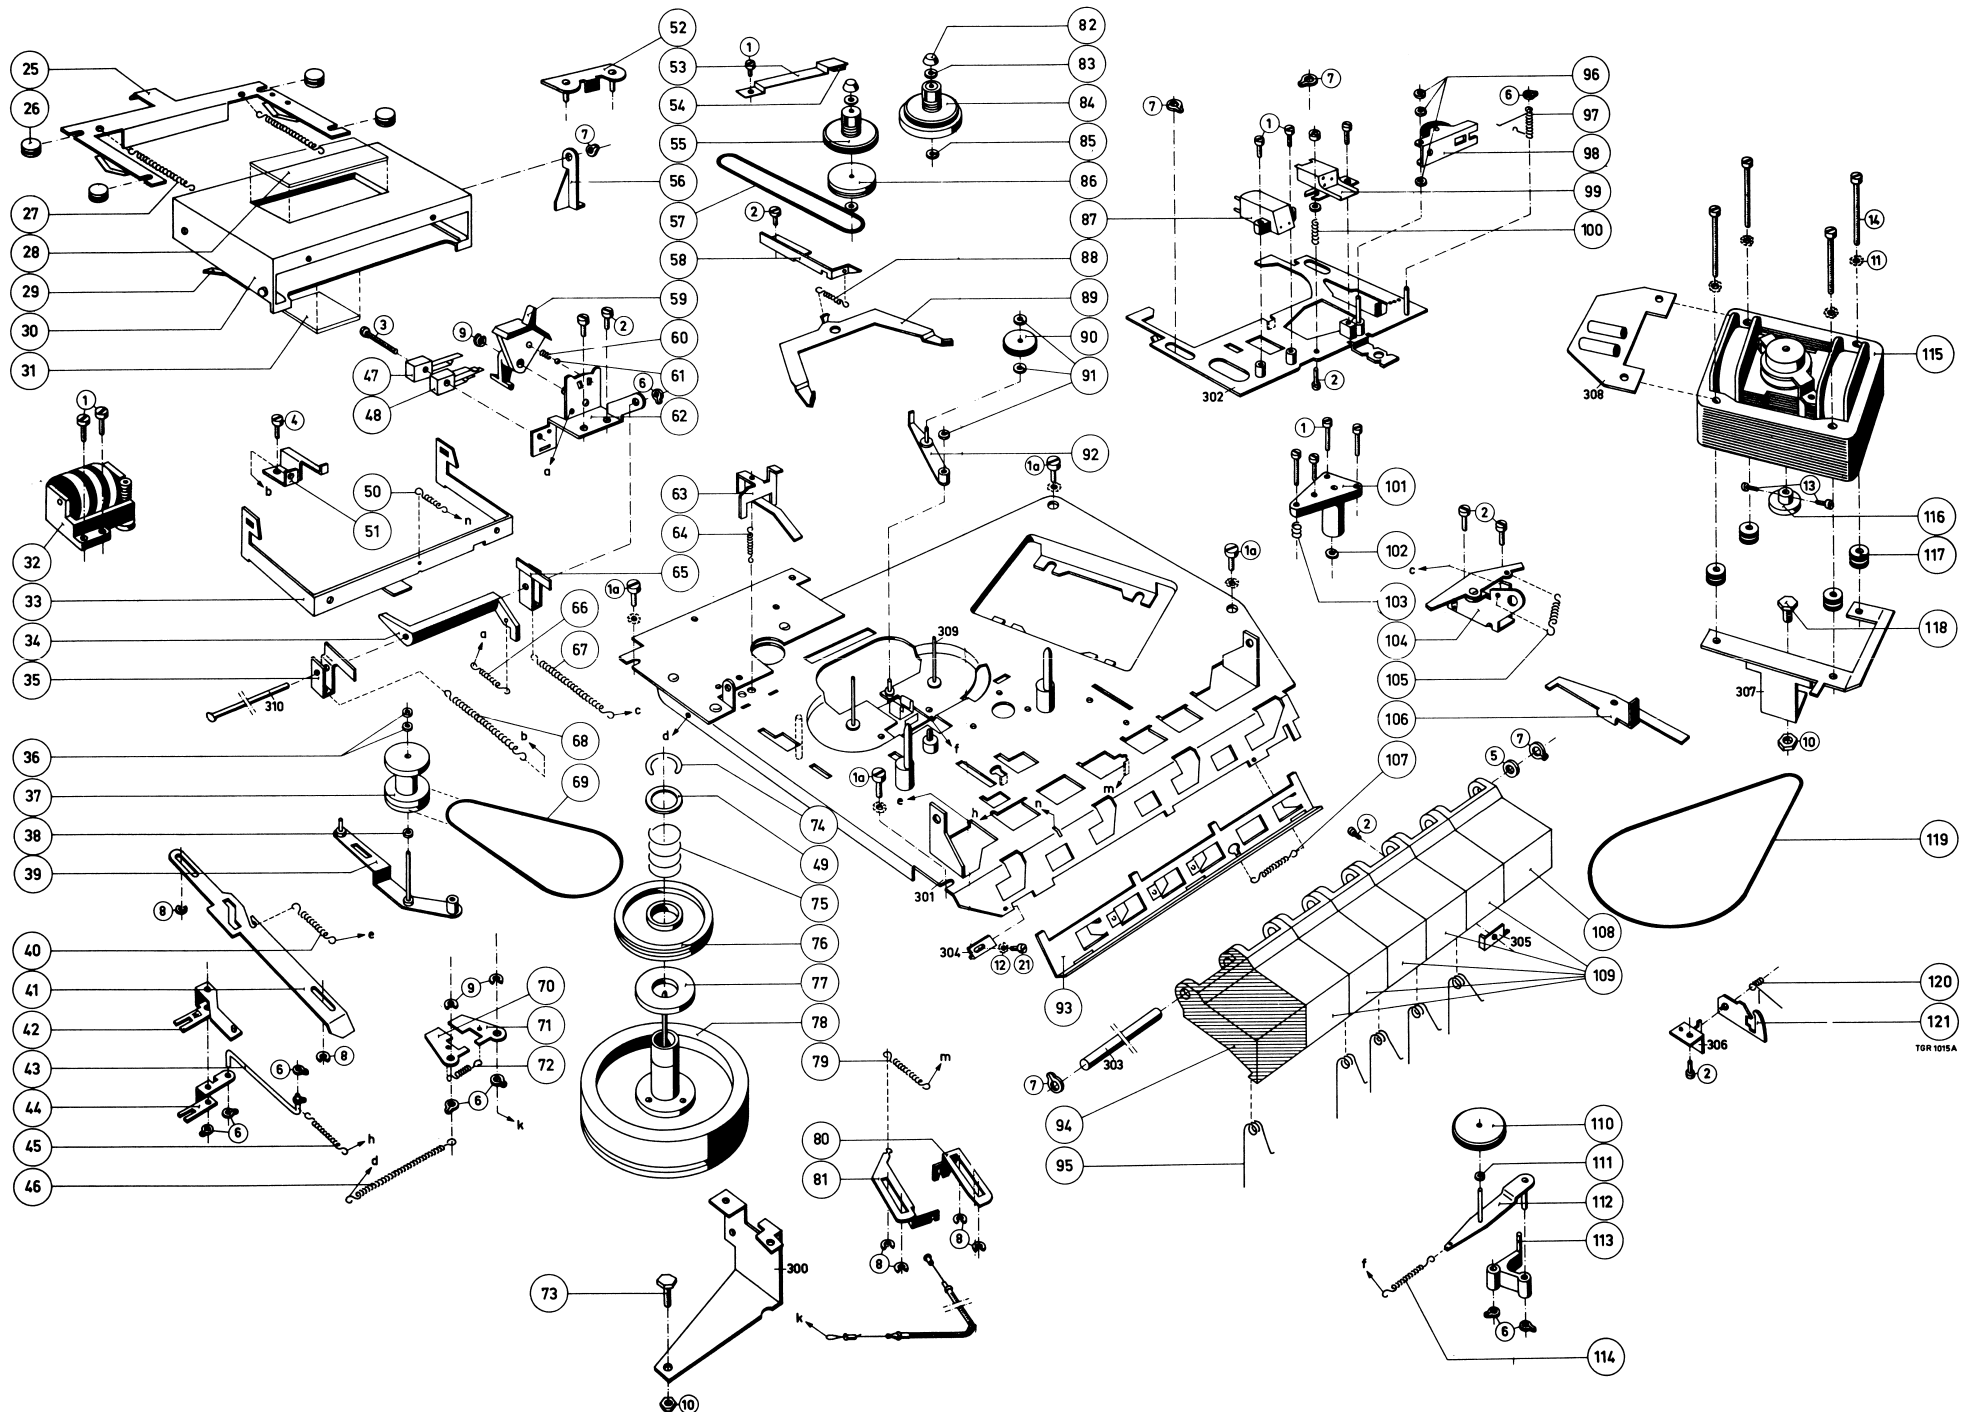

Fig. 2
- Next, remove pulley, item 37, with bracket, item 39. The belt can then be replaced.
Replacing the driving belt for the counter, item 57, see Fig. 2
- Loosen bracket, item 56, so that the cassette container can be lifted higher.
- Set the apparatus to position "Playback"; the brake bracket is consequently lifted from the reel disc, so that the belt, located between the reel disc, the brake bracket and pressure felt, item 53, can be removed.
- Replace the apparatus in its proper position. Pull the belt forwards with a pair of tweezers, pass it underneath spring, item 46, and refit it on the counter pulley.
Replacing the right-hand reel disc, Fig. 2
Replacing the left-hand reel disc, Fig. 2